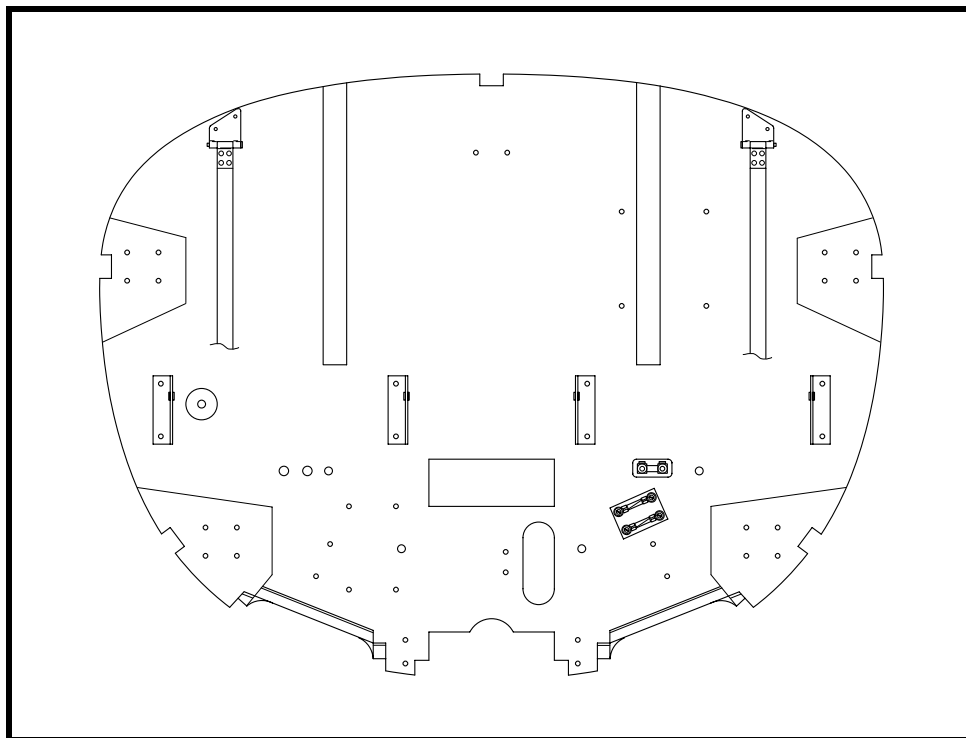

Figure 21
- ❑ Lay out the framing for the exhaust port and transfer this to your insulation template. The exhaust port framing consists of 15x15 spruce pieces in a “picture frame” around the exhaust port as shown in Figure 21. The upper members of the box between frame No. 1 and 2 will be installed at an included angle of 102°. Since you will have a similarly matching 78° on the front face of frame No. 2, make the two strips at once by ripping a piece of spruce with the table saw blade set at 12°. Because of the way the box is constructed, this angle does not match the angle on the bottom—where the exhaust port shield will be installed.